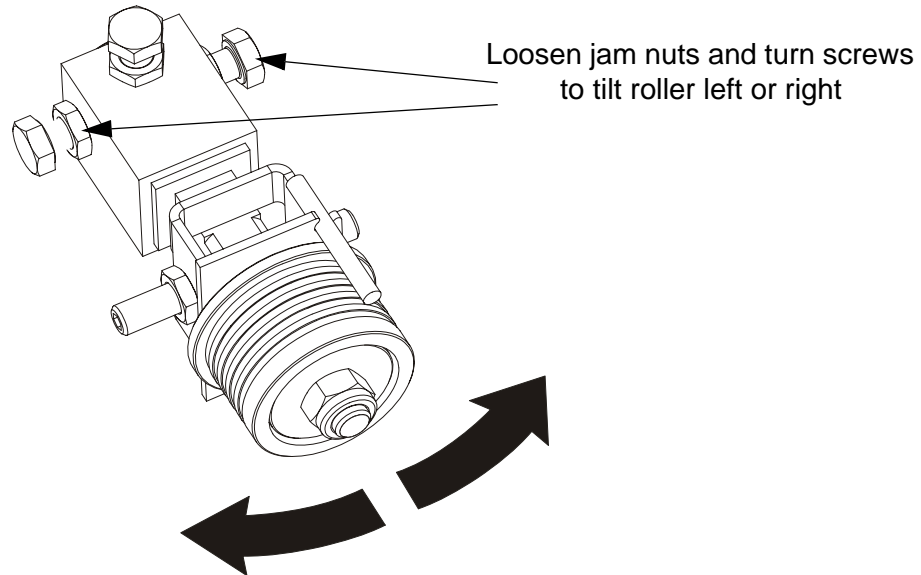

FIG. 5-25
**See Figure 5-25.** Loosen the jam nuts on the left and right horizontal tilt adjustment screws. To tilt the roller left, loosen the right screw and tighten the left screw. To tilt the roller right, loosen the left screw and tighten the right screw. Tighten the jam nuts and